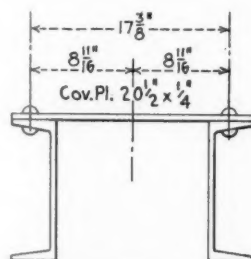

Fig. 11—Buckling stability of center sill cover
An interesting application of Formula (30) came to the author's attention during the repairs on the center sills of some gondola cars. The cross-section of the sills is shown in Fig. 11. It was rather striking that the corrosion of the cover plates was most serious along the center line of the sills. For the covers,